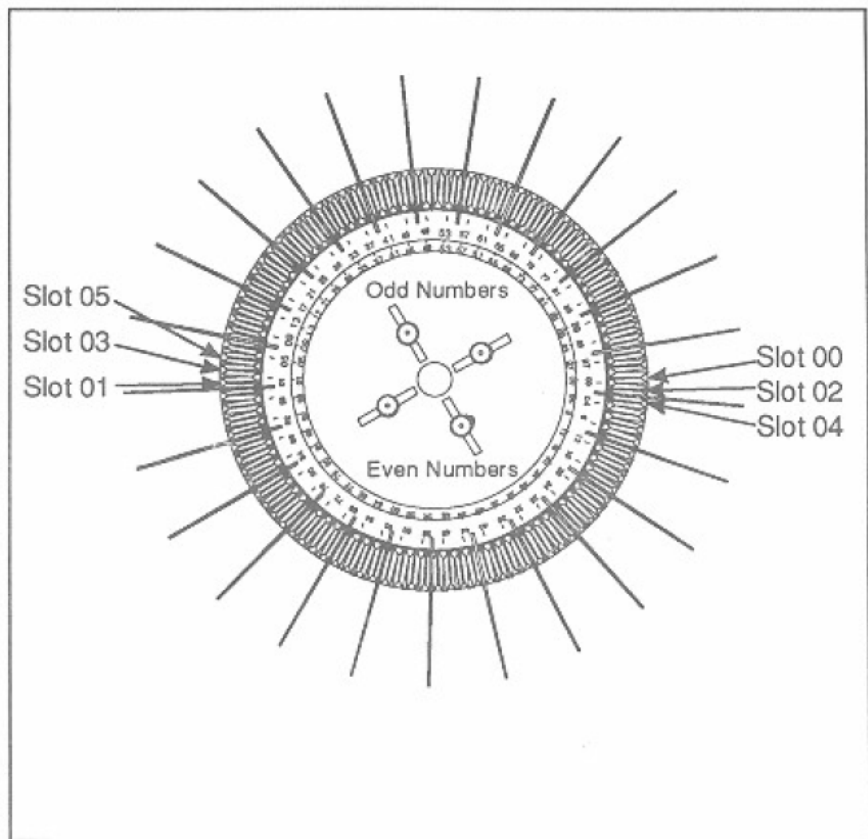

Figure 3-6. Loading The Molded CD Magazine
4. Slide the old CD out of the slot and slide the new CD into the slot (see figure 3-6) with the label to the right. Write the disc number on a note pad.
For example, on the even numbered half of the magazine, slots 00, 04, and 08 are labeled, and the slots in between – 02 and 06 – are not, as illustrated in figure 3-6.